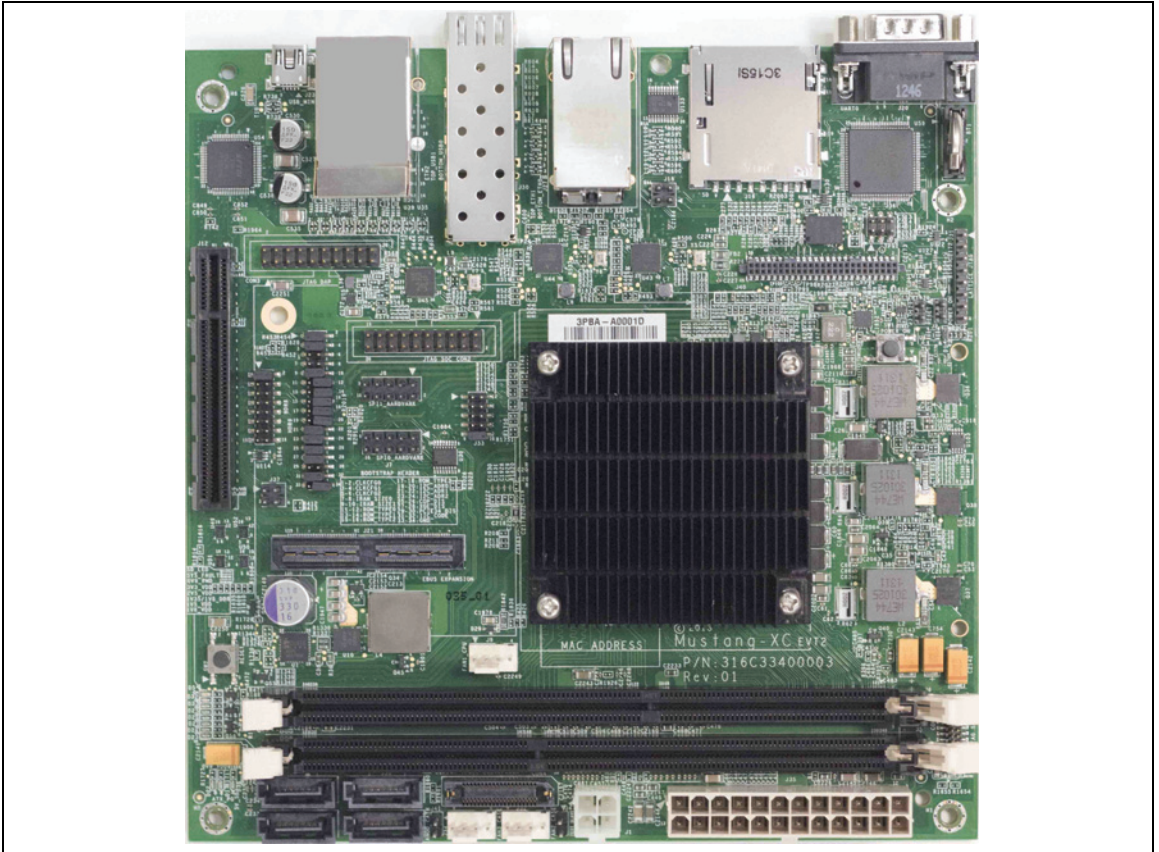

Figure 1: APM883208-X1 X-Gen X-C1 Board
- Check the physical serial cable connection and port settings. The cable should be connected to the board's UART0; see Figure 1 \(page 2\).